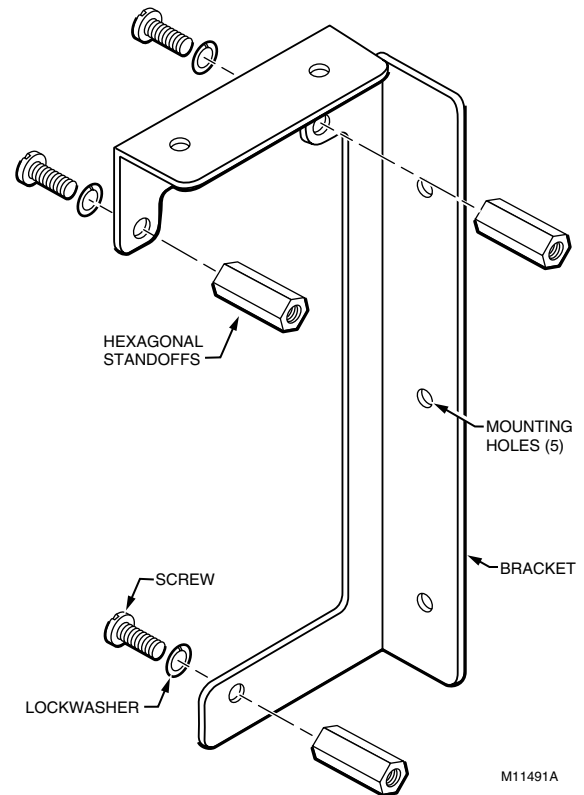

Fig. 1. 205820A Foot-Mount Bracket.
1. Using three 1/4 in. (6 mm) screws and lockwashers, attach the 1/2 in. (13 mm) hexagonal standoffs to the bracket. See Fig. 1.